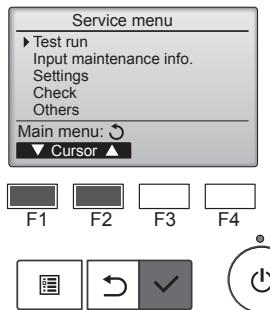

Fig. 7-4
- ③ Select “Test run” with the [F1] or [F2] button, and press the button. (Fig. 7-4)